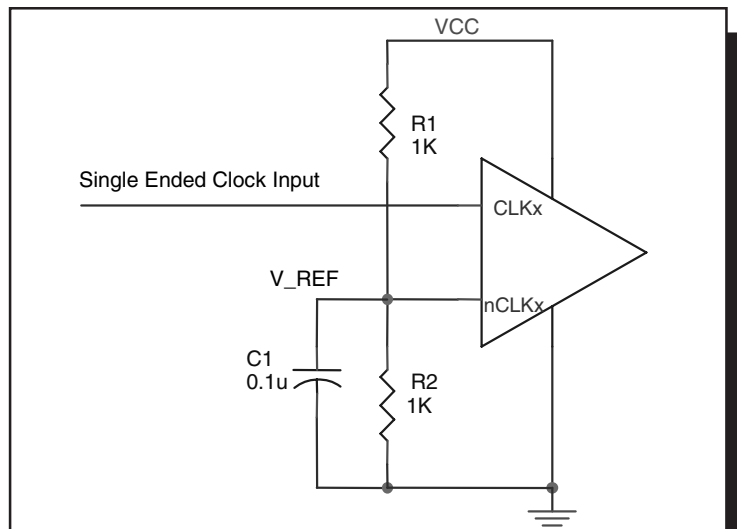

FIGURE 2. SINGLE ENDED SIGNAL DRIVING DIFFERENTIAL INPUT
*Figure 2* shows how the differential input can be wired to accept single ended levels. The reference voltage  $V_{REF} = V_{CC}/2$  is generated by the bias resistors  $R1$ ,  $R2$  and  $C1$ . This bias circuit should be located as close as possible to the input pin. The ratio